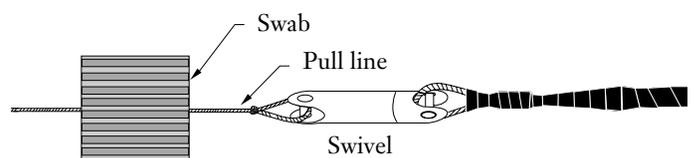
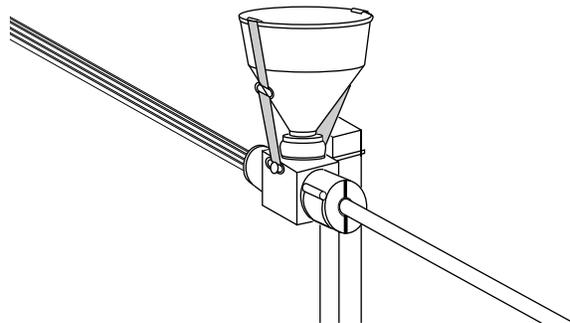

Figure 10
Figure 11
7.4 Use a ball bearing swivel to prevent the pull line from imparting a twist to the cable as it is pulled through the conduit (see Figure 10).
7.8 Apply lubricants according to the manufacturer’s recommendations. Distribute lubricant throughout the innerduct by pulling a swab in front of the cable (Figure 10), or use a pump or gravity feed device to inject lubricant into the conduit (Figure 11).